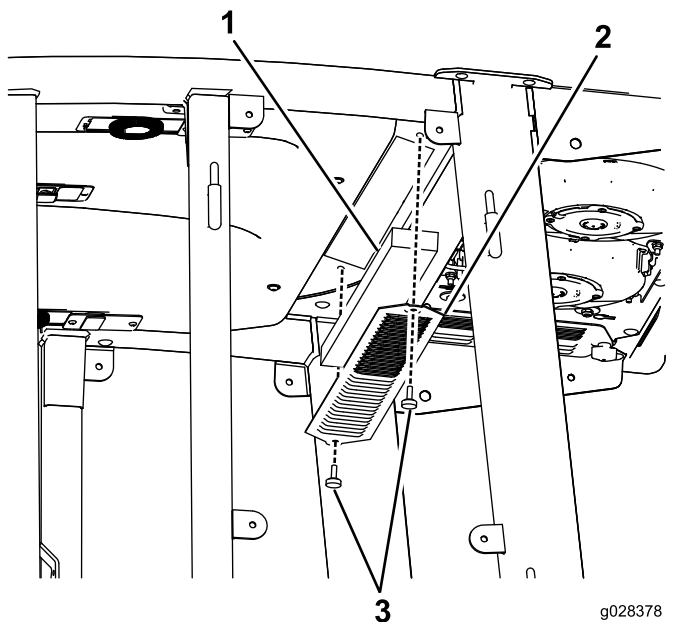
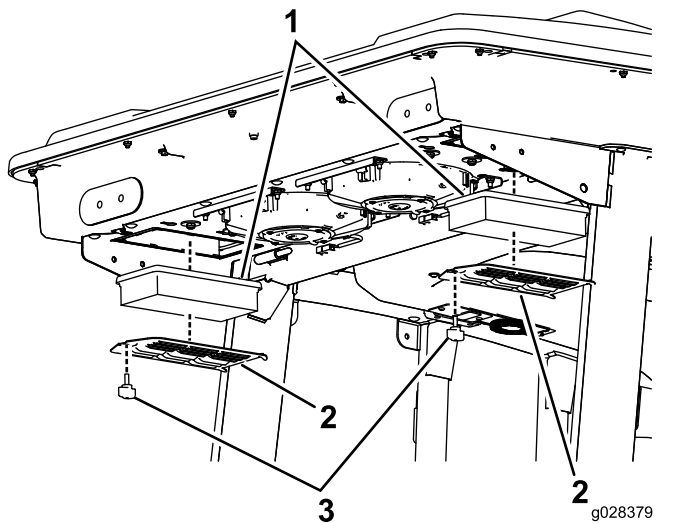

Figure 134
Figure 135
1. Remove the screws and grates from both the in-cab and rear cab air filters (Figure 134 and Figure 135).